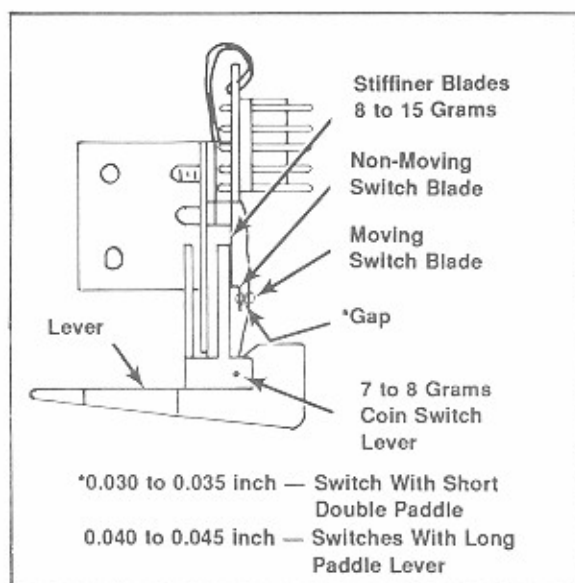

Figure 3-8. Contact Pressure
1. Check that each moving switch blade pushes against its lever with 7 to 8 grams force to hold the lever against the cushion (see figure 3-8). To adjust the pressure, bend the blade near its mounting point.